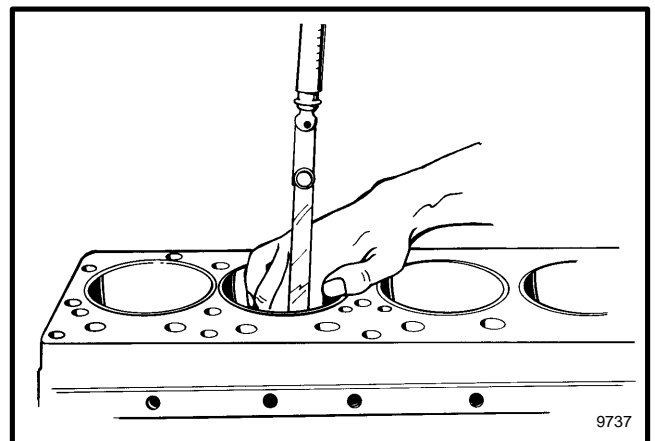
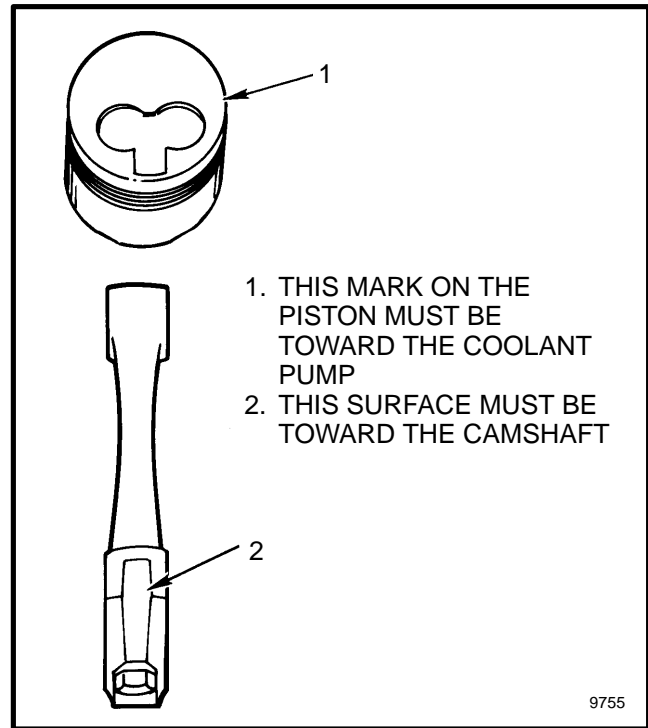

FIGURE 45. CHECK THE CLEARANCE BETWEEN THE PISTON AND THE CYLINDER LINER
FIGURE 48. PISTON AND CONNECTING ROD ARRANGEMENT
2. Check the clearance between the piston and the cylinder liner. Remove the piston rings to make the measurement. Install a piston into its cylinder liner. Install the piston so that the front mark is toward the front of the engine. See FIGURE 48. Now put a 0.10 to 0.12 mm (0.004 to 0.005 inch) blade of a thickness gauge between the piston and the cylinder liner. Make sure to put the thickness gauge at the left side of the cylinder liner as shown in FIGURE 45. This area of the piston has the most wear. Install a 0 to 5 kg (0 to 10 pound) scale to the end of the thickness gauge. Push the piston toward the side of the cylinder liner that is opposite the thickness gauge. Now pull out the scale with the thickness gauge and check the reading on the scale. The clearance is correct if the amount of pull needed to remove the thickness gauge is 0.5 to 1.0 kg (1 to 2 pounds).
2. During installation of the piston pin, heat the piston in warm oil. Then push the piston pin into the piston and through the connecting rod. See FIGURE 48. for the arrangement of the piston and connecting rod during assembly.
1. Assemble the connecting rod and the piston. Make sure that the connecting rod is installed as shown in FIGURE 48. Heat the piston in an oil bath to approximately 60°C (140°F) for easier installation of the piston pin. Install the snap rings.